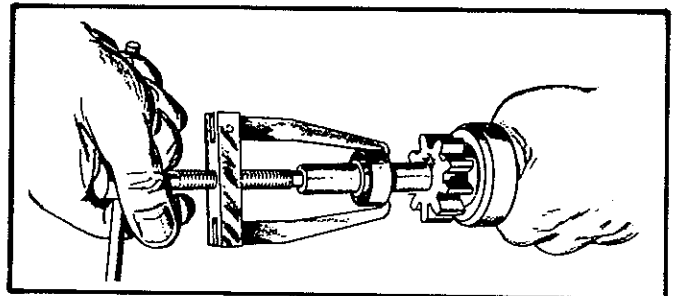

FIGURE 18-22. MOUNTING OVERRUNNING CLUTCH
3. To mount the overrunning clutch, insert the pinion stopper into the armature shaft and apply the ring rigidly to the groove of the shaft. For insertion of the ring, use the tool shown in Figure 18-22 and pull the pinion stopper up.